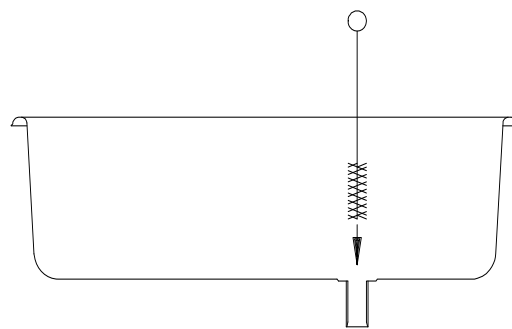

Figure 8-1 Sanitize hopper and its components
4. Pour sanitizing solution into the hopper pan. Using a clean brush, scrub the hopper walls, the mix feed port from the hopper to the cylinder, the inside of the mix feed tube and adapter, and the inside of the hopper cover. (See Figure 8-1)